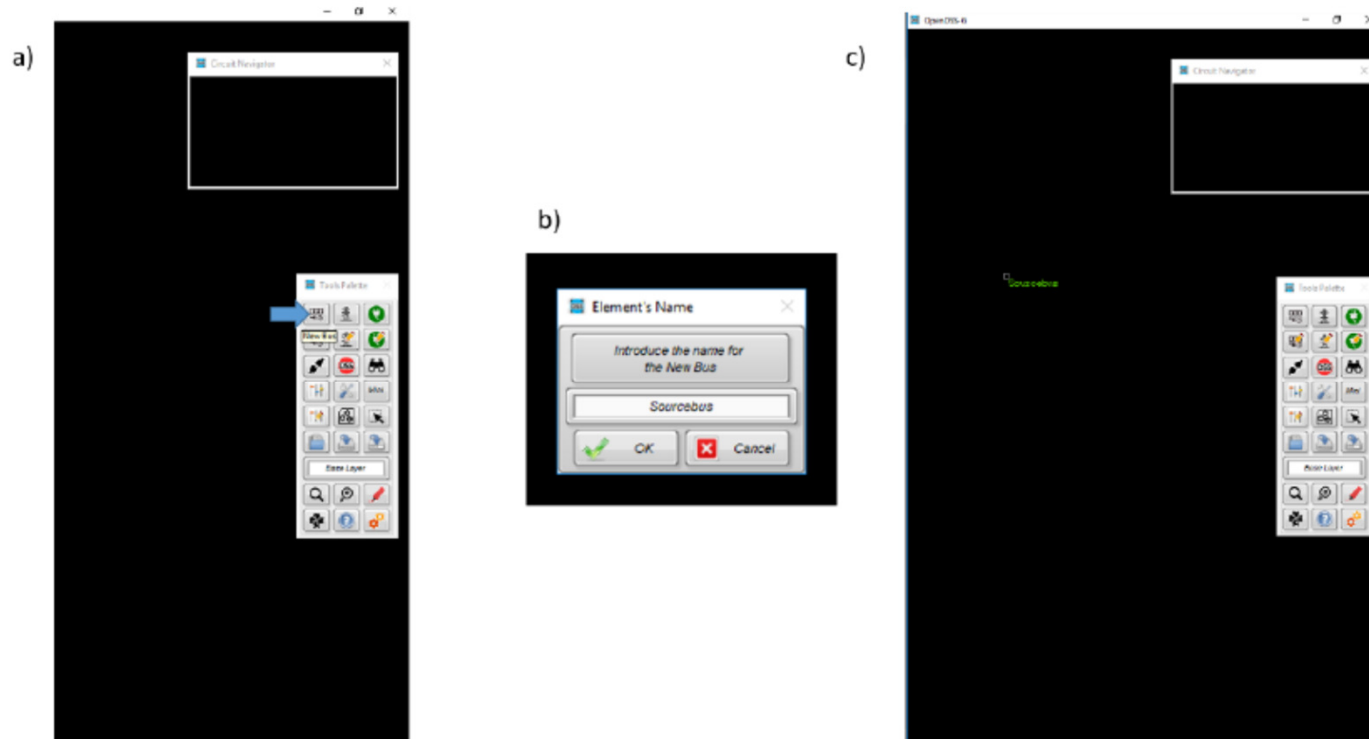

Fig.1 Creating the reference bus
- The first step to creating a model in OpenDSS-G is to define the reference bus of the circuit, which is the bus to which the substation will be connected. From the Tools Palette, click on the New Bus command, as shown in Fig.1(a).
- ▶ After this operation, a dialog window will appear asking for the name of the new bus; in this case, the bus will be called Sourcebus. By clicking the OK button, as shown in Fig.1 (b), OpenDSS-G allows the user to place the bus in the Graphical panel, as shown in Fig.1 (c). With the reference bus, it is possible to add a substation.